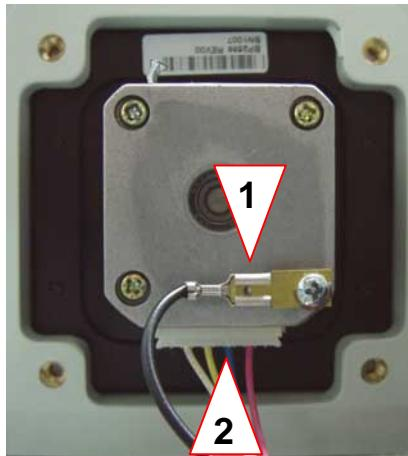

Fig. 3-34 Peristaltic pump (rear view)
3. Pull off the two cables from the pump (see Fig. 3-34, 1 and 2).